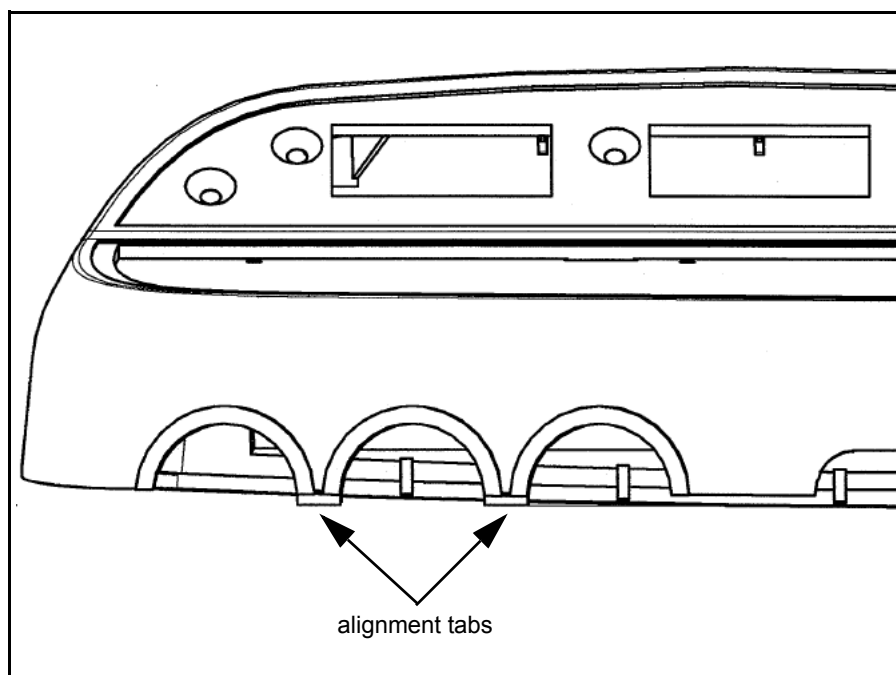
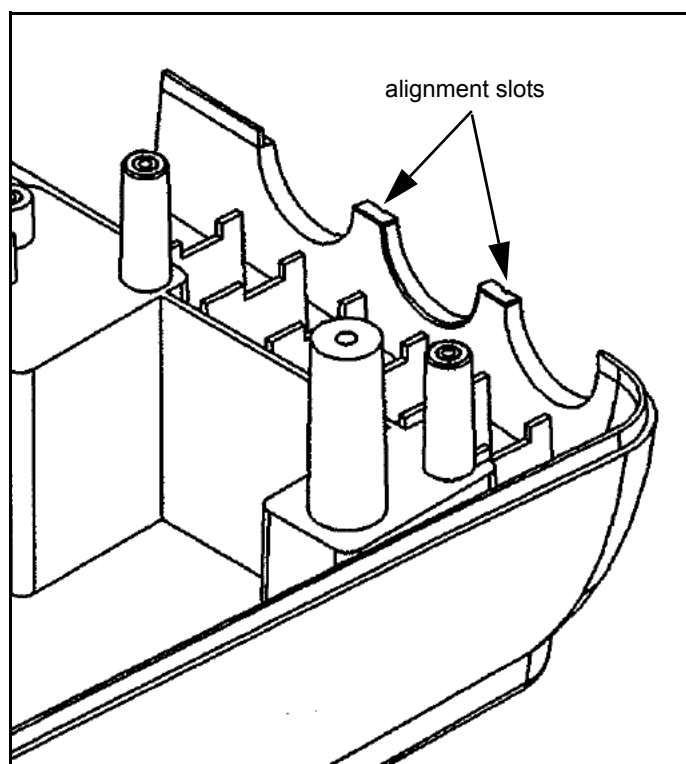

Figure 7-12. Top Cover Alignment Tabs
Figure 7-13. Bottom Enclosure Alignment Slots
7. Newer monitors have top covers with tabs which fit into corresponding slots in the bottom enclosure. (Refer to Figure 7-12 and Figure 7-13.) If you are installing a newer tabbed top cover onto an older bottom enclosure (without slots), you must remove the tabs. Use a small hand file or other tool to remove the plastic tabs.